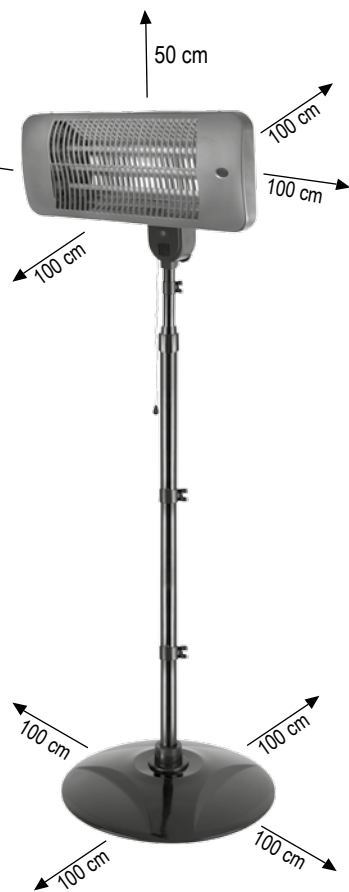

Figure 2 • 2. ábra • 2. obrázek • fig. 2. • 2. skica • 2. obrázek • Slika 2.
2. Never locate the unit directly in corners and observe the minimum mounting distances indicated in Figure 2. Always observe the health and safety regulations valid in the country of use.